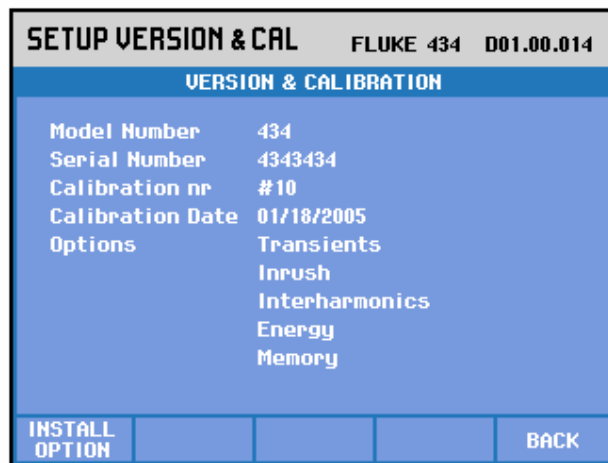

Figure 5-1. Version & Calibration Data
1. Press **SETUP**, then press **F2** to see the Version & Calibration data (see Figure 5.1).